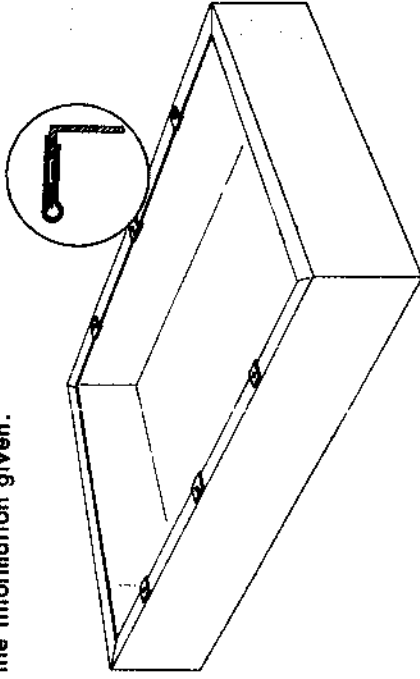

Fig. 6
- 6) Press a speed nut in place over each hole on the bottom flange of the chassis (see Fig. 6).